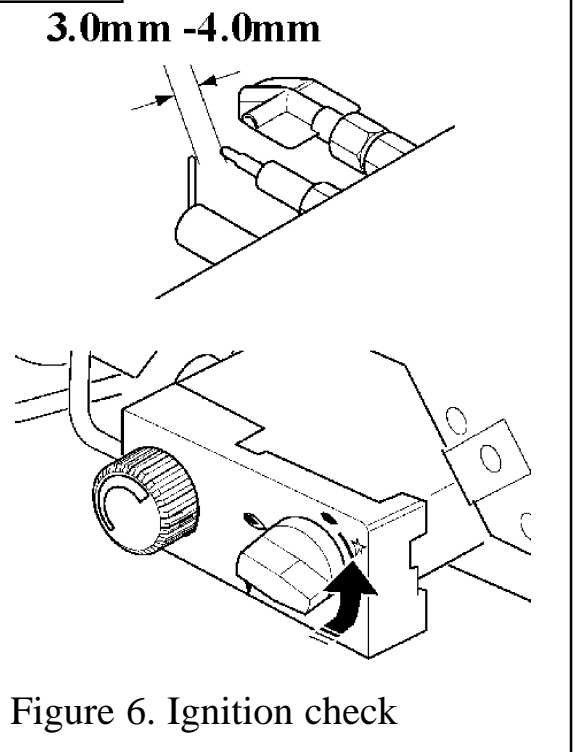

Figure 6. Ignition check
5.3.1 Check ignition spark (See figure 6).